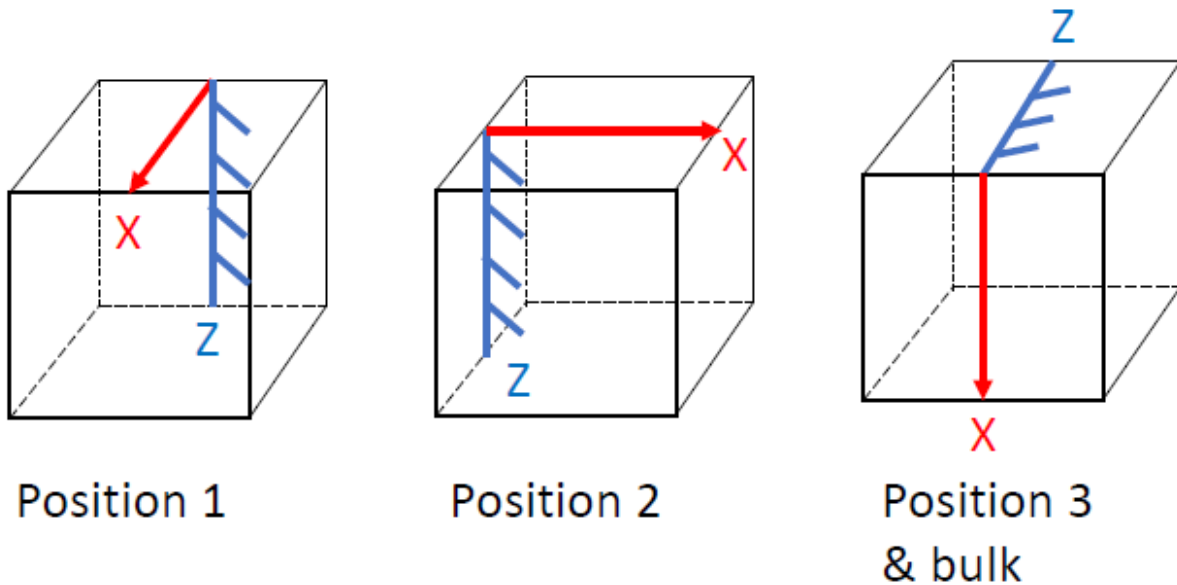

Figure 28: Sample positions for 2D holder
b. When using the 2D holder, the cube will be placed in three positions (Figure 28).